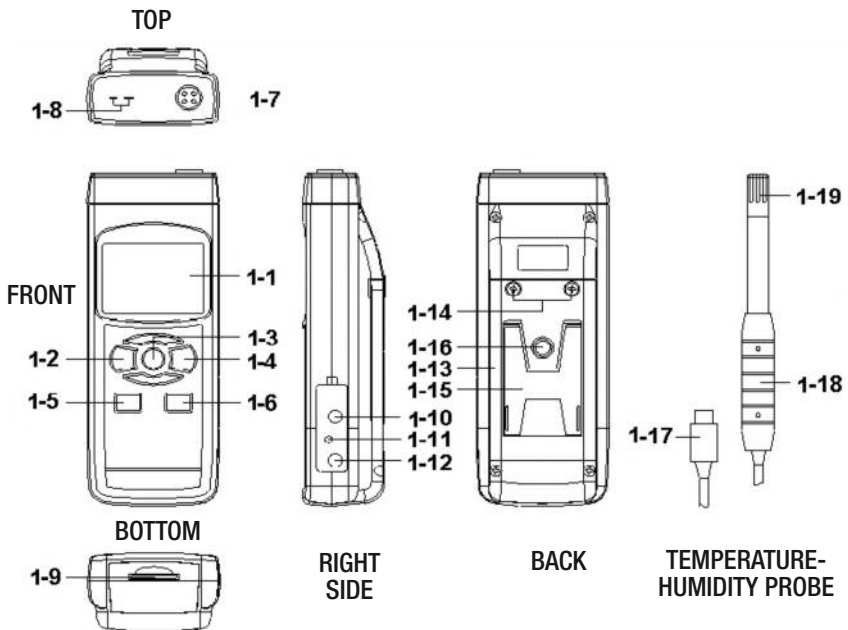

Fig. 1. The DTH3007SD's controls and indicators and other physical features
Figure 1 shows all of the controls and indicators on the front, right side, back, top and bottom of the DTH3007SD. It also shows the main components of the included temperature-humidity probe. Familiarize yourself with the positions and functions of these controls, indicators and connectors before moving on to the setup procedure.
2. To measure temperature and humidity simultaneously, seat the temperature-humidity probe plug (callout 1-17 of Fig. 1) in its socket (callout 1-7) on the top of the instrument. Then press the FUNC./HOLD/NEXT button until the display shows the term “rH”. Holding the probe by its handle, either immerse its head in the liquid whose temperature you wish to measure, or expose the head to a representative volume of air whose temperature and humidity you wish to measure. The upper part of the display will show the measured relative humidity value (as “%RH”) while the lower part will show the temperature (as “°F” or “°C”).
5. To measure surface temperature using a thermocouple, make sure the temperature-humidity probe is not in its socket. Plug an optional Type K or Type J thermocouple into its dedicated socket (callout 1-8 of Fig. 1).